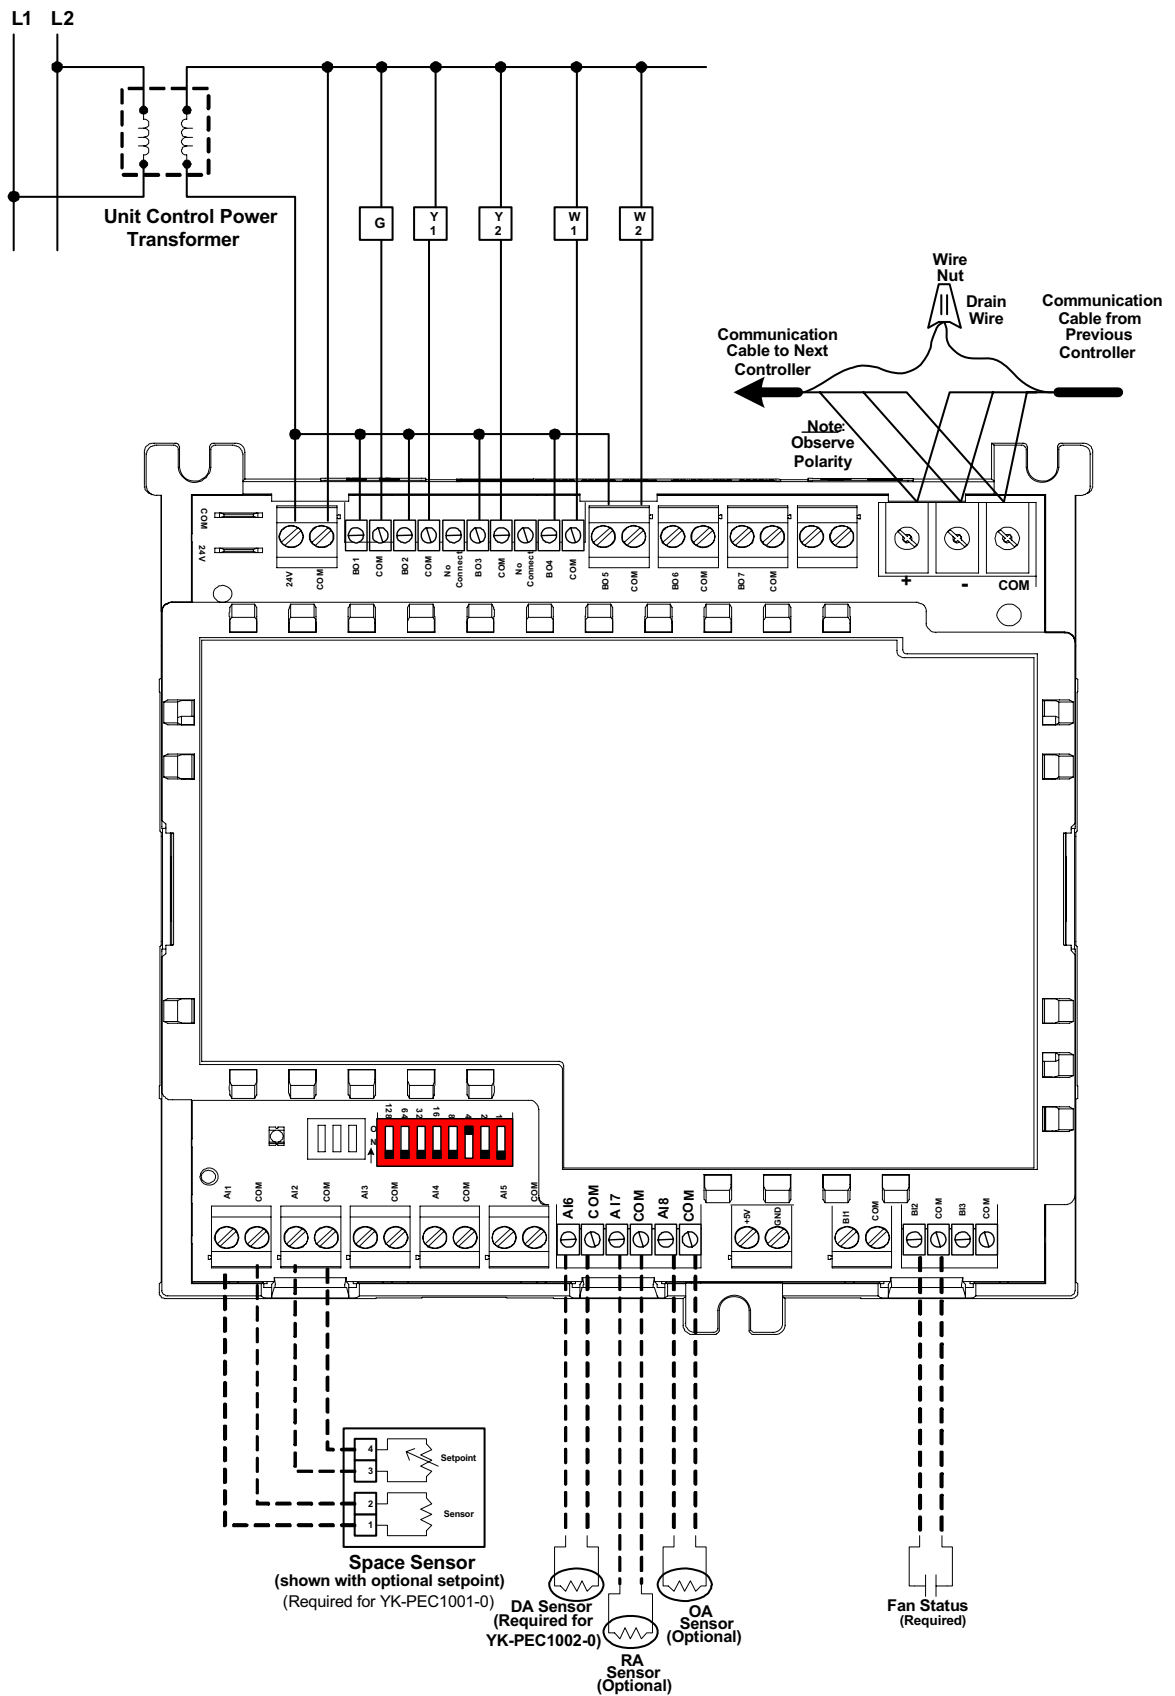

Figure 4: RTU Controller Board Terminations
- On each end of the three-conductor cable, strip the outside insulation back approximately 2 inches. Tear off excess foil shield, leaving the bare drain wire and the three insulated conductors. On each end of the three insulated conductors in the cable, strip the insulation back approximately 1/8 to 1/4 inch. Pick a color pattern to follow and insert each of the three conductors into one each of the three terminals on the YCCS board communication connector. Tighten each terminal until the wire is secure (Figure 4). Ground the drain wire at one end only of the communication trunk. Do this on the last unit in line. Use an existing hole or drill a hole and insert a sheet metal screw in the back plate below the communication connector.
Figure 4 shows the RTU controller board terminations.